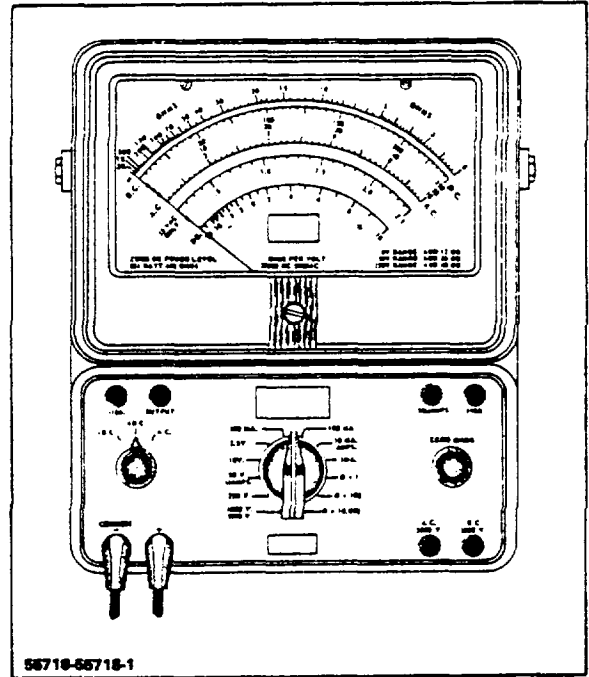

Figure 3-1. VOM Test Meter
2. Volt-Ohm-Multimeter (VOM) with 20,000 ohm-per-volt D.C. sensitivity and 5,000 ohm-per-volt A.C. sensitivity (Simpson model 260, Figure 3-1, or equivalent). These are minimum specifications.